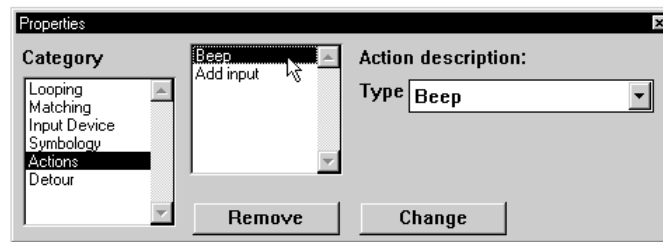

Figure 4-47 Beep Action Selected
21. Select **Beep** in the action list (Figure 4-47).